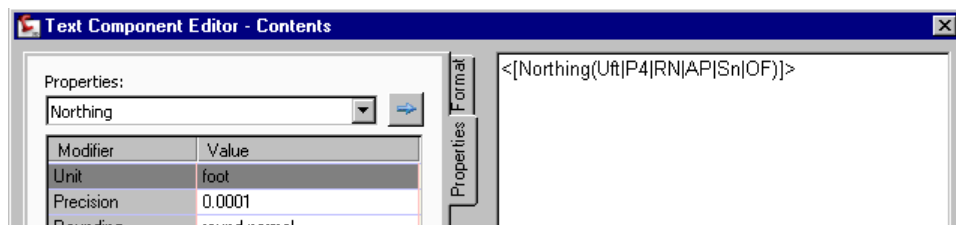

Figure 2-63 Partial view of the **Text Editor** window showing the label text
13. Select **Label Text** in the Text Editor window and delete it so that only the **Northing** property is displayed in the Text Editor window. Refer Figure 2-63.